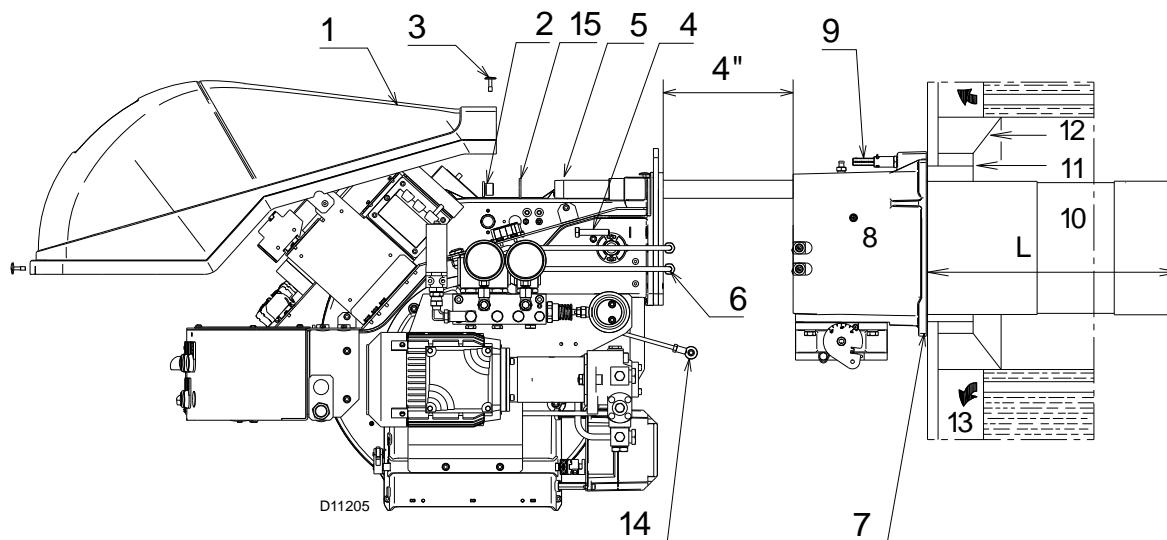

Fig. 12
This protective insulation must not compromise the extraction of the blast tube. For boilers having a water-cooled front, the insulation (11)-(12) (Fig. 12) is not required unless it is required by the boiler manufacturer.
Detach the combustion head from the burner, (Fig. 12):
- Refit the burner to the slide bars 3 (Fig. 23) at approximately 4" from the sleeve 4) - burner positioned as shown in Fig. 12, page 19 - insert the ignition electrode cables.
- refit screws 2) on slide bars 3) including the safety plate 15 (Fig. 12, page 19);
- connect the oil pipes again by screwing on the two connectors 6) (Fig. 12, page 19).